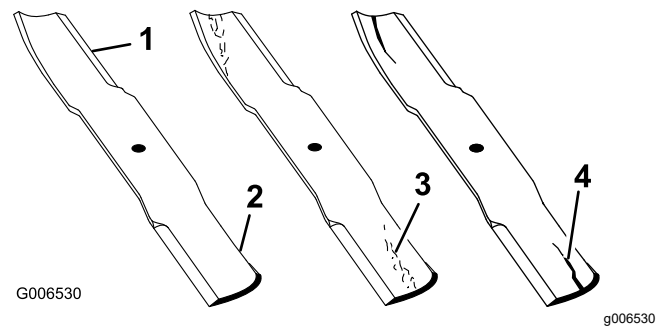

Figure 88
1. Inspect the cutting edges (Figure 88).
4. If you notice any cracks, wear, or a slot forming in this area, immediately install a new blade (Figure 88).